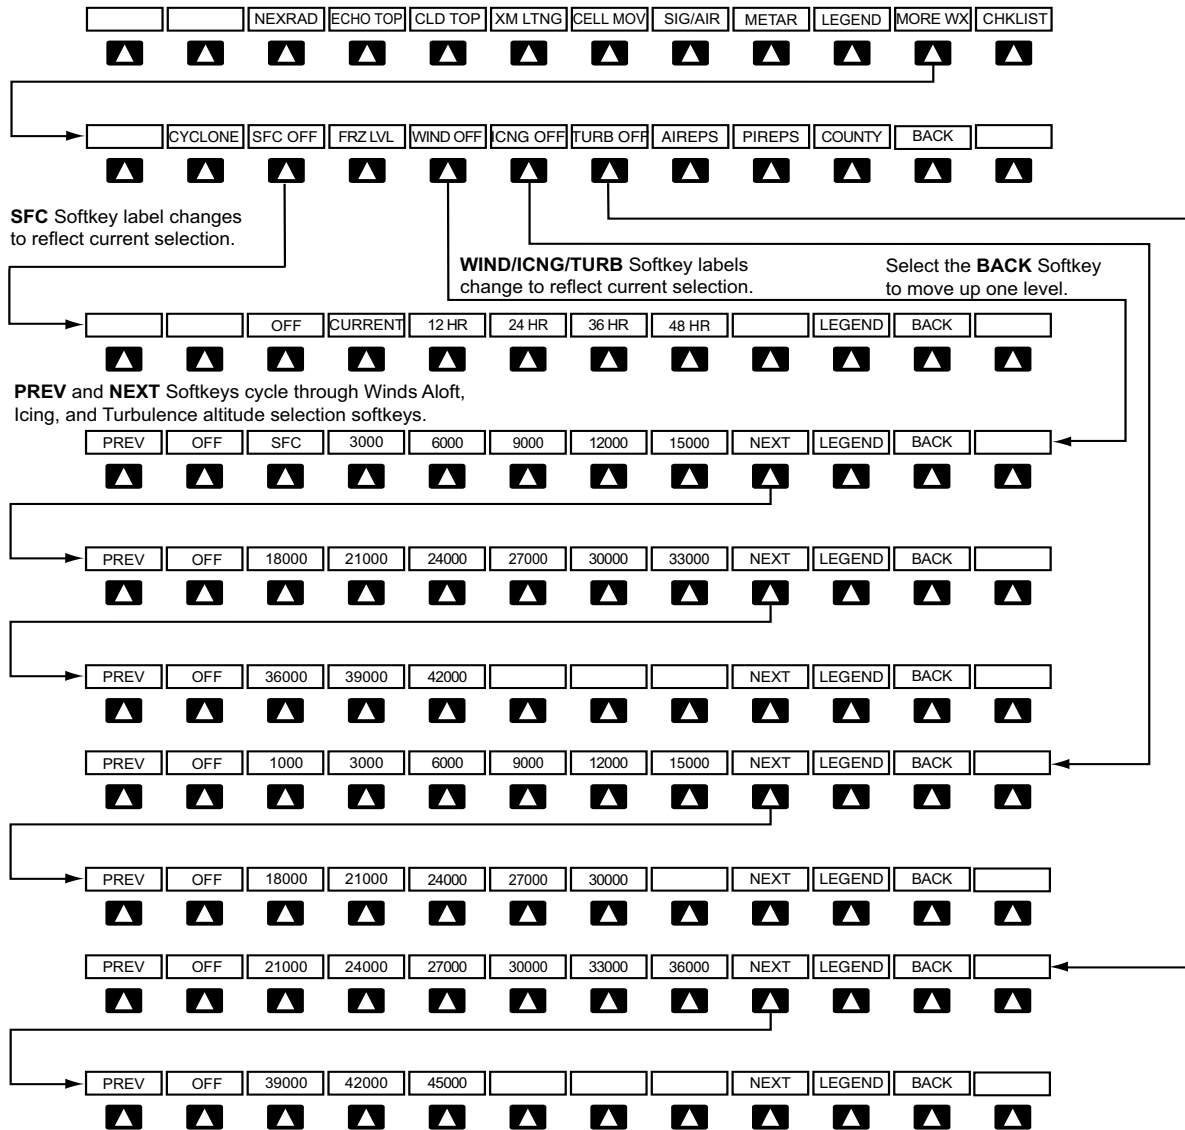

Figure 6-4 Weather Data Link (XM) Page Weather Product Softkeys
Softkeys control the display of weather information on most MFD pages and the PFD Inset Map (Figure 6-4 shows the weather product softkeys for the Weather Data Link (XM) Page). When a weather product is selected for display, the corresponding softkey label changes to gray to indicate the product is enabled. Unavailable weather products have subdued softkey labels (softkeys are disabled from selection).